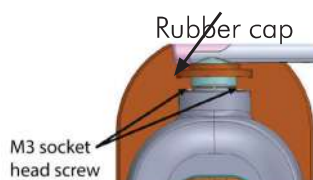

Figure 54
- Lift the rubber cap on the top and remove the 2 no's of M3X6 Hex. socket Head cap screws with M3 plain washers on top using 2.5 mm allen key as shown in the Figure 54 .